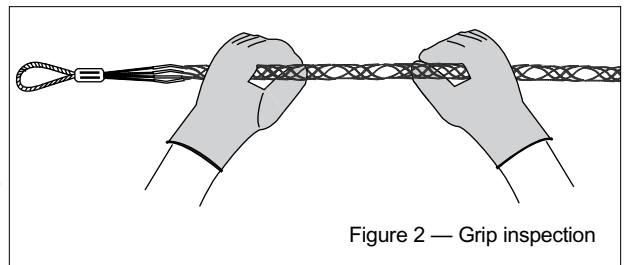

Figure 2 — Grip inspection
Step 3: Once the proper grip is obtained, inspect it for damaged or broken wires, bulges due to stress, rust, etc. Grasp the pulling eye in one hand (gloves are recommended) and smooth out the mesh with the other, tightening the wires. Figure 2 illustrates the technique, which is critical when reusing grips.